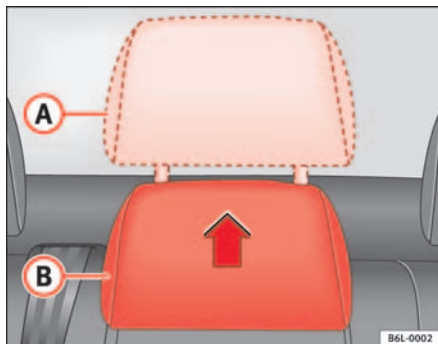

Fig. 5 Adjusting central rear head restraint
- Raised position or position for use **(A)** ⇒ fig. 5. In this position, the head restraint is used normally, protecting the occupant of the rear central seat, along with the rear seat belts.
- Rest position **(B)** ⇒ fig. 5. This position improves the driver's rear visibility.